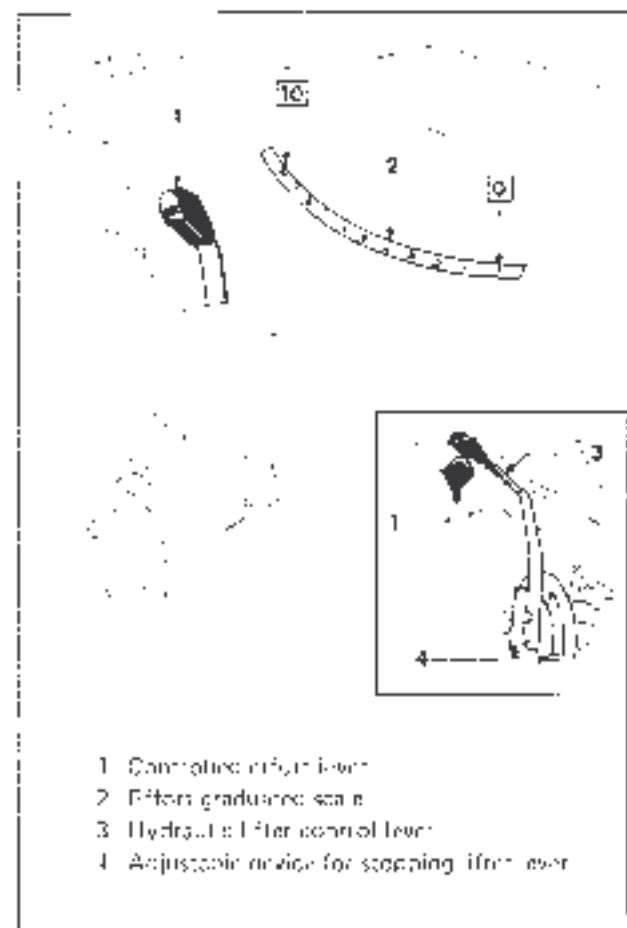

Figure 13 Use of the controlled effort hydraulic lifter
Make sure the controlled effort lever (fig. 13, item 1) is disengaged (position 10 of graduated scale).
The controlled effort lever makes it possible adjusting the hydraulic lifter sensitivity as follows (see fig. 13):
Operate the controls as follows (see fig. 13):
- Lock the lever stop (4) to bring it to same position in starting any stroke.
3. Adjust the lifter sensitivity actuating lever (1) as shown in figure 13.